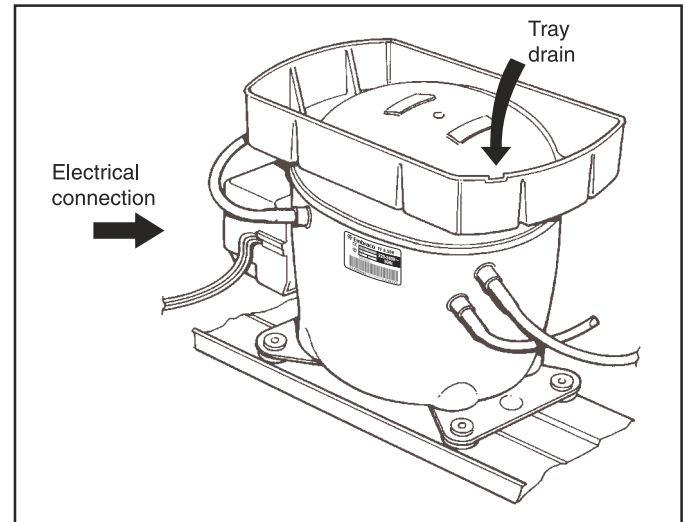

Figure 3
- 3) Position the tray above the compressor ensuring that the tray drain is on the right hand side of the compressor (this is the opposite side to the compressor's electrical connection cover) (figure 3).